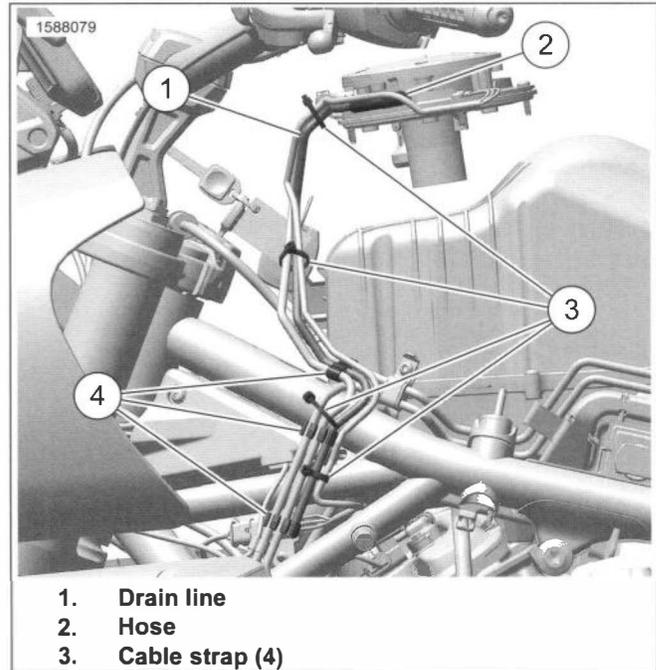

Figure 6-23. Drain Line
1. See Figure 6-23. Make note of location of cable straps (3) and drain line (1) routing.
3. Remove hose (2) from fuel inlet.
1. See Figure 6-23. Install hose (2) on fuel inlet fitting.
2. Route vent line (1) in location previously noted.
4. Install **new** cable straps (3) in locations previously noted.